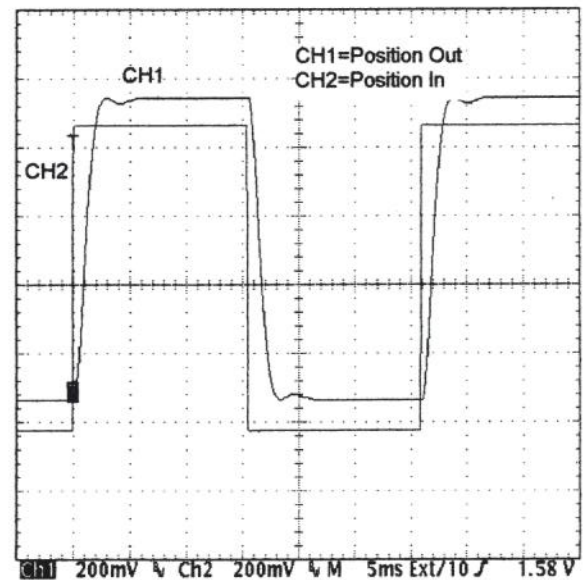

Figure 2.
8. Turn R25 CW to minimize the first overshoot and to minimize the oscillations. See figure 2.